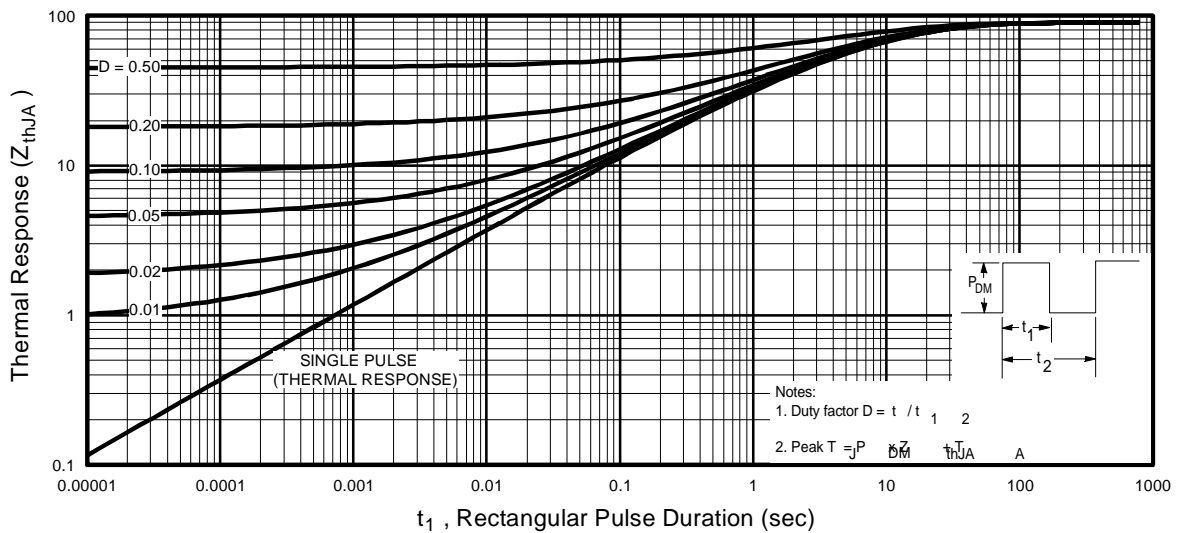

Fig 23. Maximum Effective Transient Thermal Impedance, Junction-to-Ambient
① Repetitive rating; pulse width limited by max. junction temperature. (See fig. 23)
② N-Channel $I_{SD} \leq 2.4A, di/dt \leq 73A/\mu s, V_{DD} \leq V_{(BR)DSS}, T_J \leq 150^\circ\text{C}$